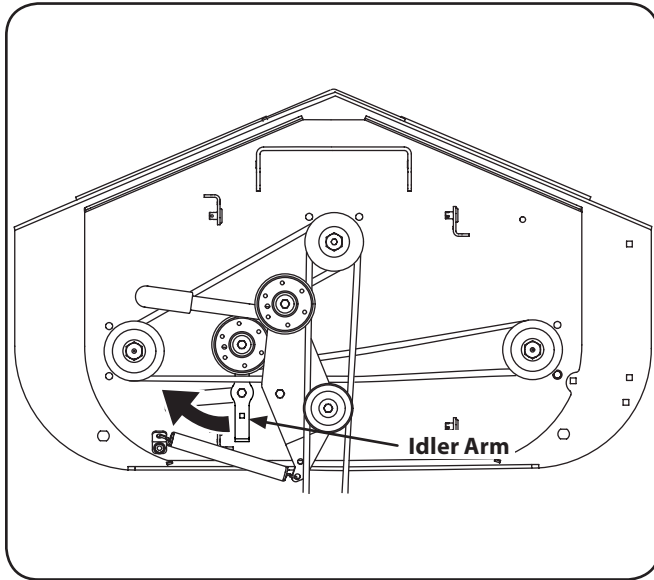

Figure 7-9
3. Using a $\frac{1}{2}$ " socket breaker bar or socket ratchet insert the male end into the $\frac{1}{2}$ " square opening in the lower idler arm assembly and pull the idler arm clockwise. See Fig. 7-9. While holding the idler arm back, loosen the deck belt from the pulley and slide the belt away from the pulley.
2. Remove the hex washer screws securing the belt covers to the deck and remove the belt from the spindle pulleys. Refer to Fig. 7-9.